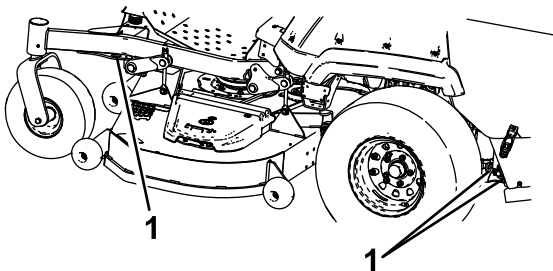
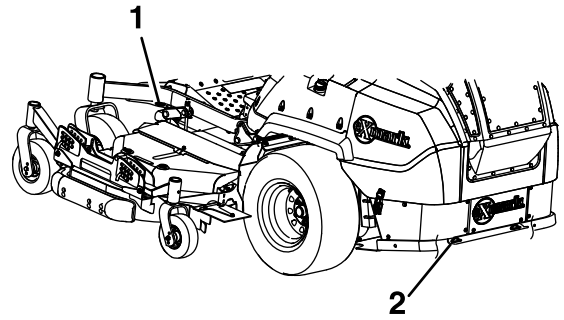

Figure 29
Figure 30
- Securely fasten the machine to the trailer or truck with straps, chains, cable, or ropes. Only use the designated tie-down locations on the mower (see Figure 29 and Figure 30). Use these locations even when transporting the mower with an attached accessory. Using non-designated locations may cause damage to the mower and/or attachment.